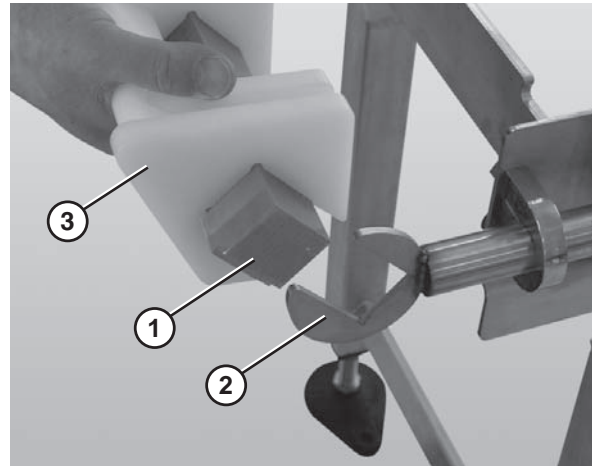

Figure 64
1. Slide the nose bar drive or transfer post (Figure 64, item 1) out of the nose bar drive weldment or idler hands (Figure 64, item 2).
2. Remove the nose bar tracking pucks (Figure 64, item 3), if applicable.